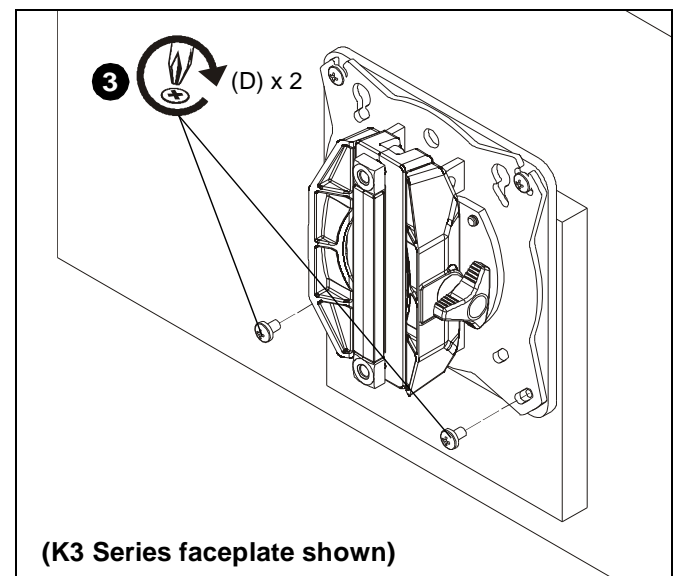

Figure 4
3. Using Phillips screwdriver, install two M4 x 6mm Phillips pan machine screws (D) through the *lower* mounting holes on faceplate into the interface bracket (A). (See Figure 4)
4. Tighten all four screws (D). (See Figure 4)